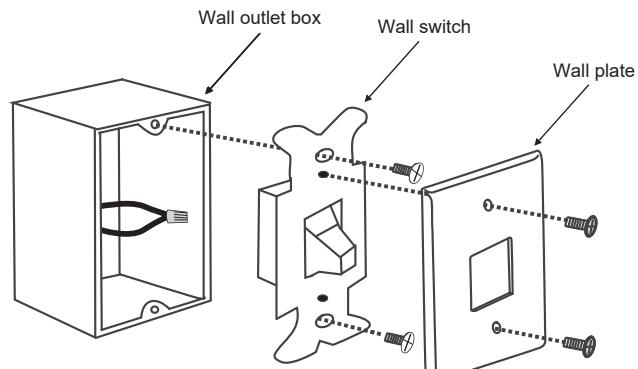

Fig. 23
**Step 1.** Remove the pre-existing wall plate and wall switch from pre-existing wall outlet box. Disconnect wires from switch. Wire nut the BLACK leads (hot) together, and push wires back inside the wall outlet box (**Fig. 23**). Or select a desired location with a new outlet box.